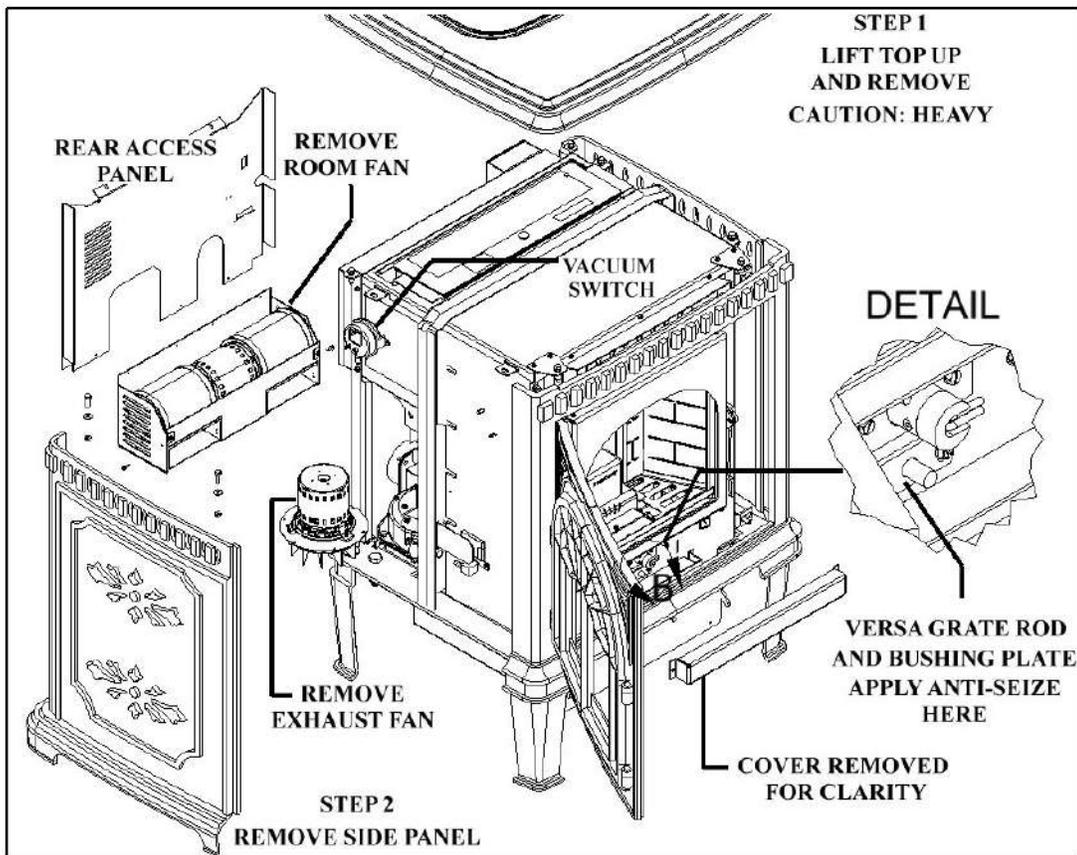

Figure 26
2. The entire exhaust system should be thoroughly cleaned at least annually. We recommend you call your dealer for this service. (See figure 26 on the following page)
3. The motor/fan area behind the firebox and under the hopper should be vacuumed annually. (See figure 26 on the following page)
4. The exhaust fan should be removed and cleaned with compressed air annually. We recommend you call dealer for this service. Annual oiling of the motors is not needed. (See figure 26 on the following page)
5. The Convection fans should be removed and cleaned with compressed air annually. (See figure 26 on the following page)
6. The Versa Grate System needs to be lubricated once a year with some High Temp Anti Seize to prevent the parts from “squealing”. Add some Anti-Seize to the Cam and Rod at both bushings. To gain access to the Versa Grate System in the Hastings remove the cast iron top and side panel (see Fig 26 and 27). To locate the Rear Bushing assembly, follow the rod from the Shaft/Cage Weldment towards the front of the stove. The front bushing is located below the igniter in the front of the stove. Remove the ash lip cover as shown in figure 26.